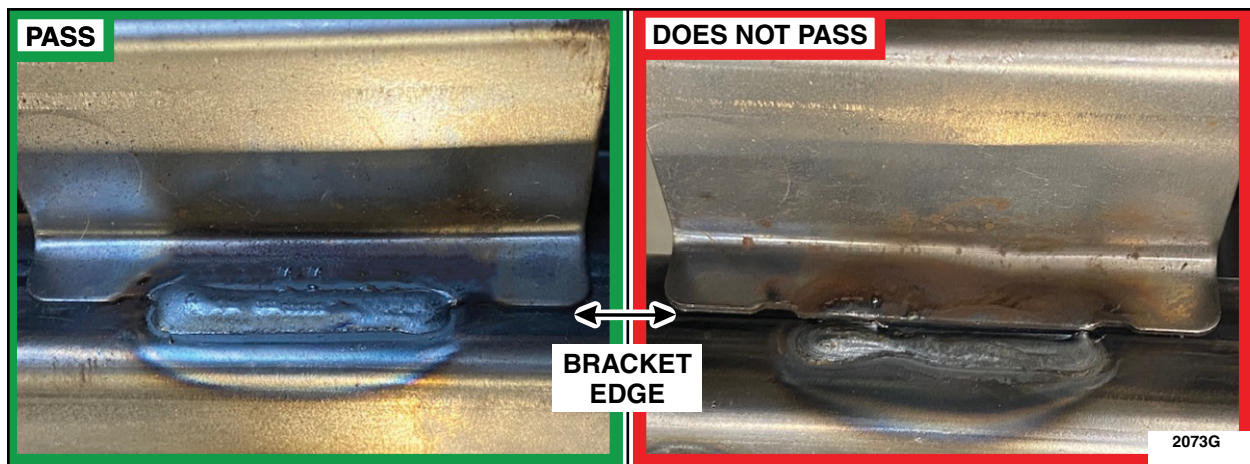

FIGURE 7
7. Are both welds covering the head rest bracket edge between the stamped notches? See Figure 7.